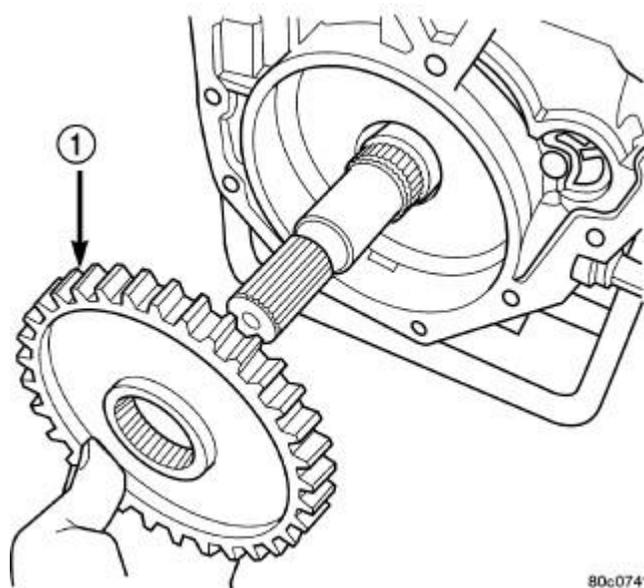

Fig. 69: Park Sprag Gear
20. Install the park sprag gear (1) onto the output shaft. Refer to **Fig. 69**.